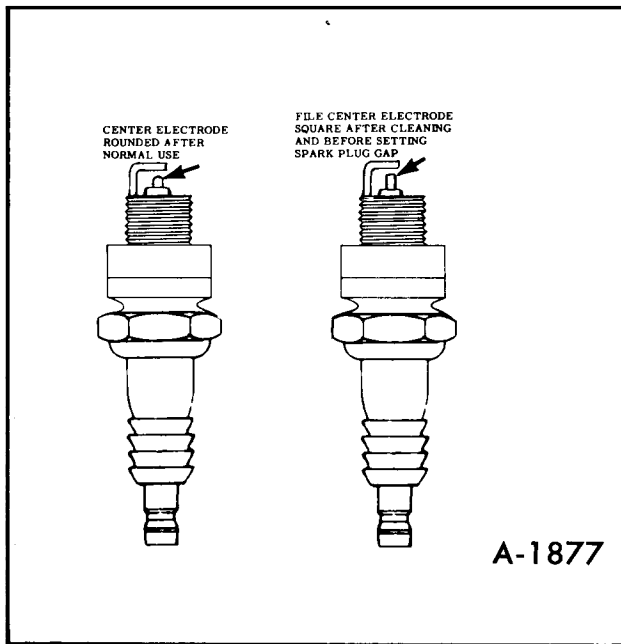

Figure 45—Spark Plug Electrodes
3. Clean all serviceable plugs with an abrasive type cleaner. File center electrode flat. (figure 45) Do not file center electrode on new plugs.